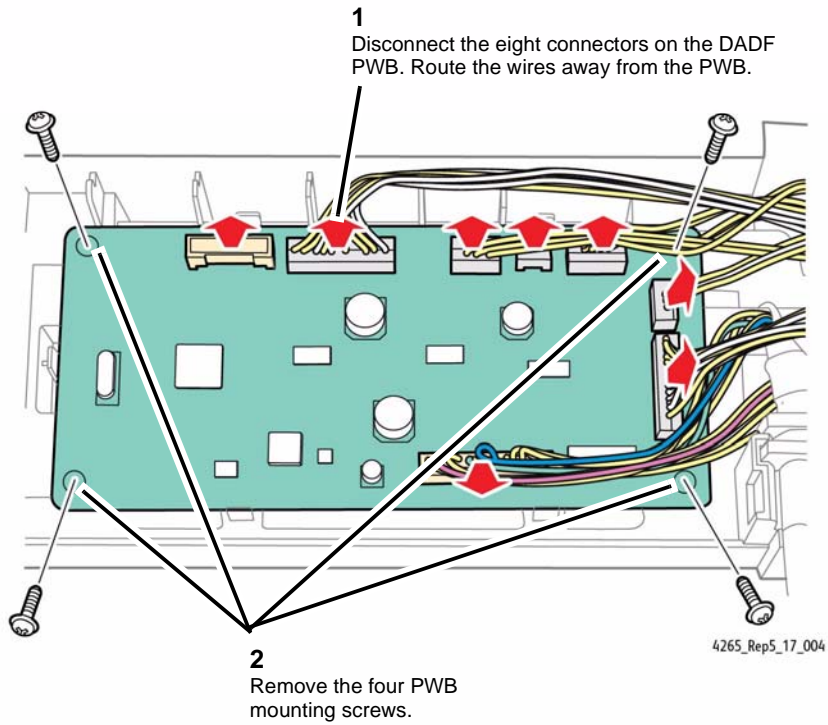

Figure 4 Disconnecting the DADF PWB Connectors
6. Disconnect the DADF PWB connectors (Figure 4).